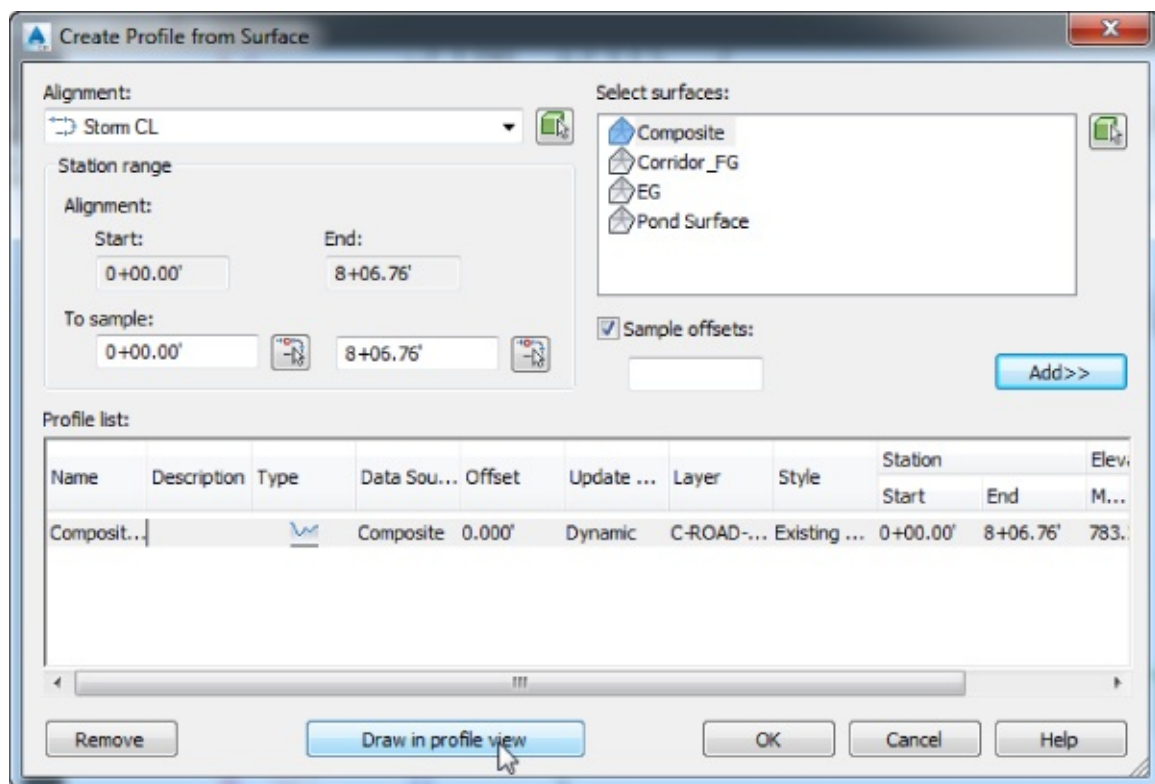

Figure 13.49 The Create Profile From Surface dialog
- The Create Profile From Surface dialog will appear (see Figure 13.49).